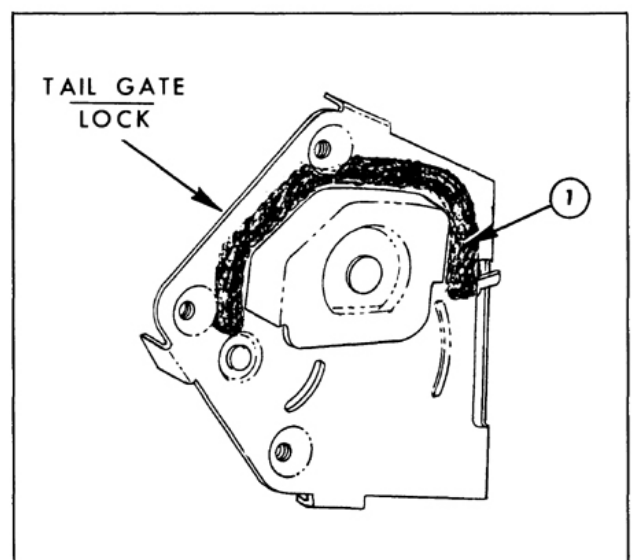

Fig. 16-219 Tailgate Lock Sealing
- To install tailgate lock assembly, reverse removal procedure. Prior to installing lock assembly into tailgate, apply a bead of body caulking compound to lock frame along joint of lock bolt housing, as indicated at 1. (Fig. 16-219)